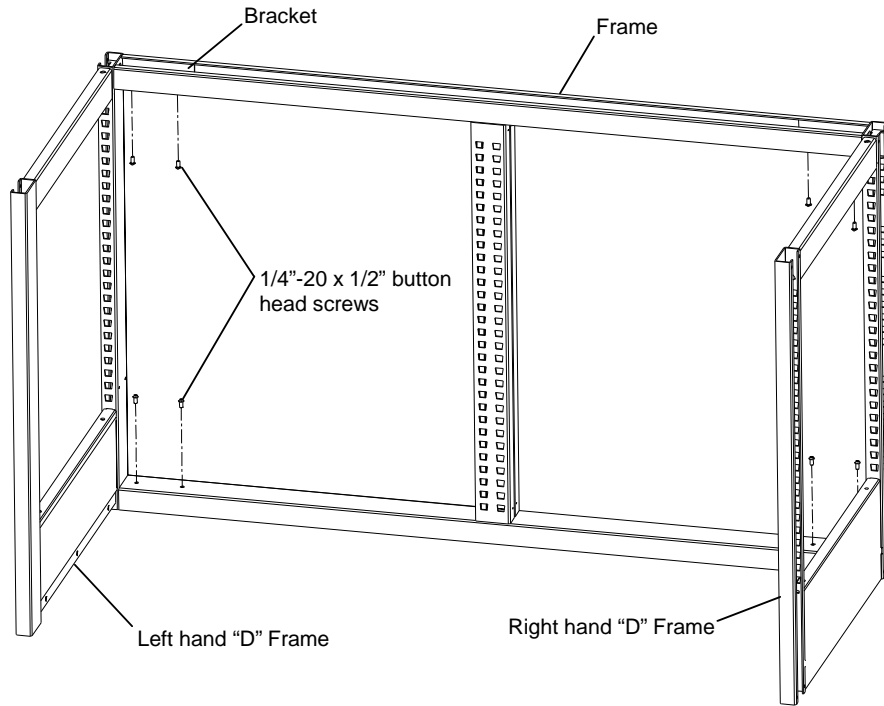

Figure 2.
2. Install eight 1/4"-20 x 1/2" button head cap screws (provided) thru the Frame and into the "D" Frame brackets as shown in figure 2. Tighten the screws using the 5/32" Allen wrench.